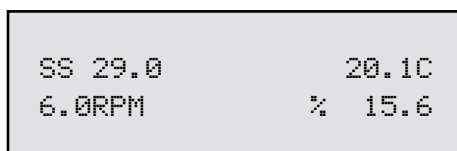

Figure II-10
The first press of the SELECT DISPLAY key would display *Shear Stress (SS)* in Dynes/cm² (or Newtons/m²), see Figure II-10: